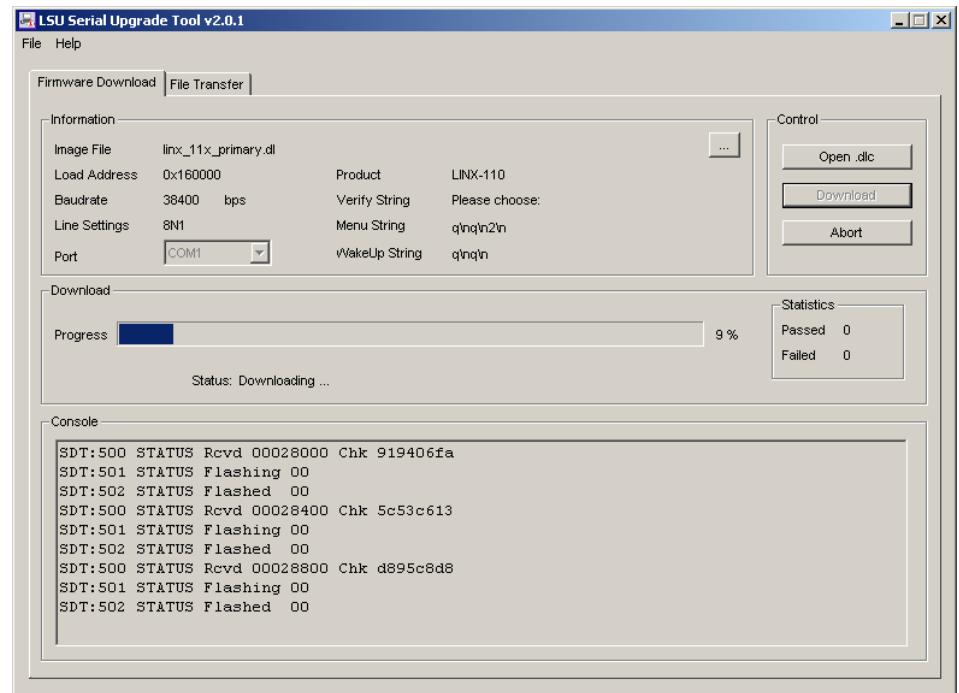

Figure 254: Progress Bar during Firmware Download.
2. If the device is not connected to COM1 you can change the port to COM2, COM3, or COM4. Make sure that the product shown under "Product" matches the device you are upgrading. Press **Download** to start the download. A progress bar as shown in Figure 254 can be seen.